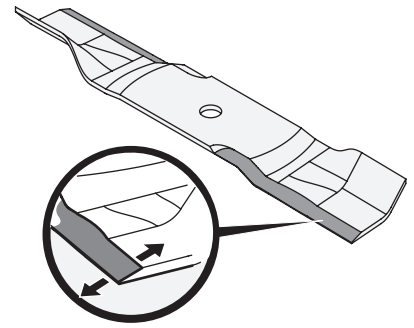

Figure 50
3. To properly sharpen the cutting blades, remove equal amounts of metal from both ends of the blades along the cutting edges, parallel to the trailing edge, at a 25°-30° angle. Always grind each cutting blade edge equally to maintain proper blade balance. See Figure 50.